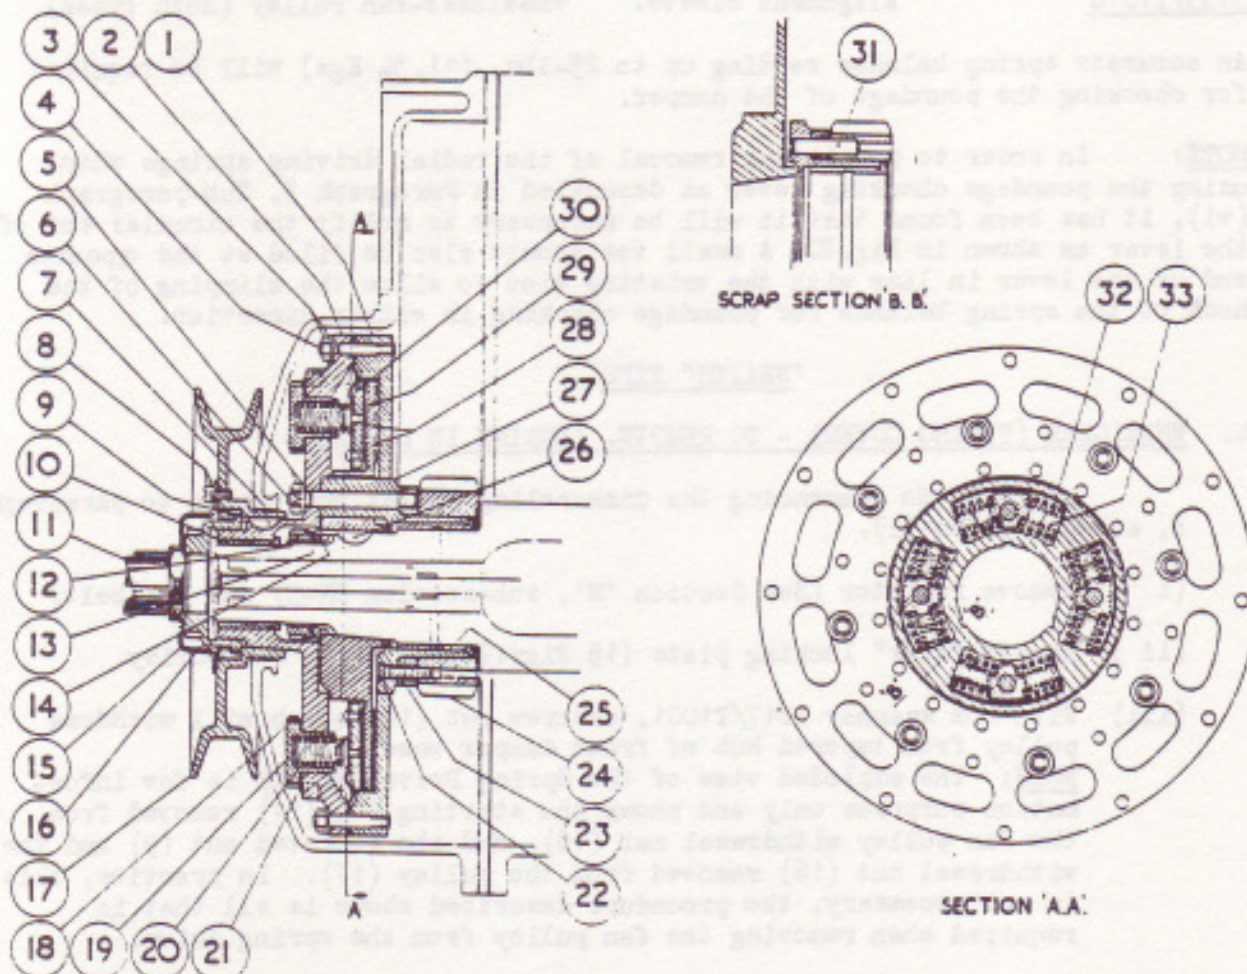

FIG. 21. SECTION - SPRING DRIVE ("WRAITH" TYPE.)
the crankshaft as high as possible, the weight of material rigidly attached to the Crankshaft at this point must be and is kept to a minimum. It will be noted that this is the friction drum only (29 Fig. 21 and 20 Fig. 28). On both types of Spring Drives, the Pinion, Fan Pulley, Damper Flywheels and Starter Dog, are the floating mass parts for inertia effect.
THE SPRING DRIVE provides a flexible coupling between the Crankshaft and the Crankshaft Pinion, its function being to maintain a constant pressure at the driving teeth irrespective of the variations in load - as imposed by the camshaft. The pinion is driven by radially disposed Coil Springs (32 & 33 Fig. 21 and 24 & 25 Fig. 28). These springs are interposed between Dog members which are attached to the Crankshaft and the Pinion.
Notation List for Fig. 21.
(ii) Remove "star" locking plate (15 Figs. 21 & 22) from fan pulley.
- (ii) Remove the four nuts (5 Fig 21), then the twelve 2-BA nuts (3) from rim of damper wheel. Remove front damper wheel (2), taking care not to lose any of the eight damping springs (20) and adjusting washers (19) if the latter are fitted.
- (iii) Remove presser plate (30) and cotton duck friction washer adjacent to it.
- (iv) Bend back tabs of lockwasher (13), and with the serrated spanner, 3759/T1007, remove nut 12 (R.H. thread) from crankshaft. Remove the plain washer (14).
- (v) Attach the extractor, 1617/T1003 to the four hub studs (6 Fig. 21) and remove "rear half" of spring drive complete with pinion from crankshaft.
- Attach the poundage checking lever, 1617/G1003 to two of the four 1/4" B.S.F. hub studs and take the strain one way which will ease the tension on four pairs of springs and make removal of them easier. It should be noted that the driving springs are retained in position at one end only (See "Section A.A." Fig. 21) and thus require to be compressed before they can be extracted. To effect this, the blade of a suitable screw-driver should be inserted between a spring and the corresponding driving dog of the friction drum (29) and the spring compressed and prised upwards until it is clear of the friction drum. Take care not to distort springs during their removal.
NOTE: The radial driving springs (32 & 33 Fig. 21) must be omitted during these operations.
- (viii) With damping springs in position on front damper wheel, fit it to rear damper wheel. The springs should be smeared with a soft type of grease to keep them in position in the hollow plugs (18).
- (ix) Tighten up the four nuts of the hub studs (6 Fig. 21) and then evenly tighten up nuts of the twelve rim studs and leave friction washers under compression for about twelve hours if time permits.